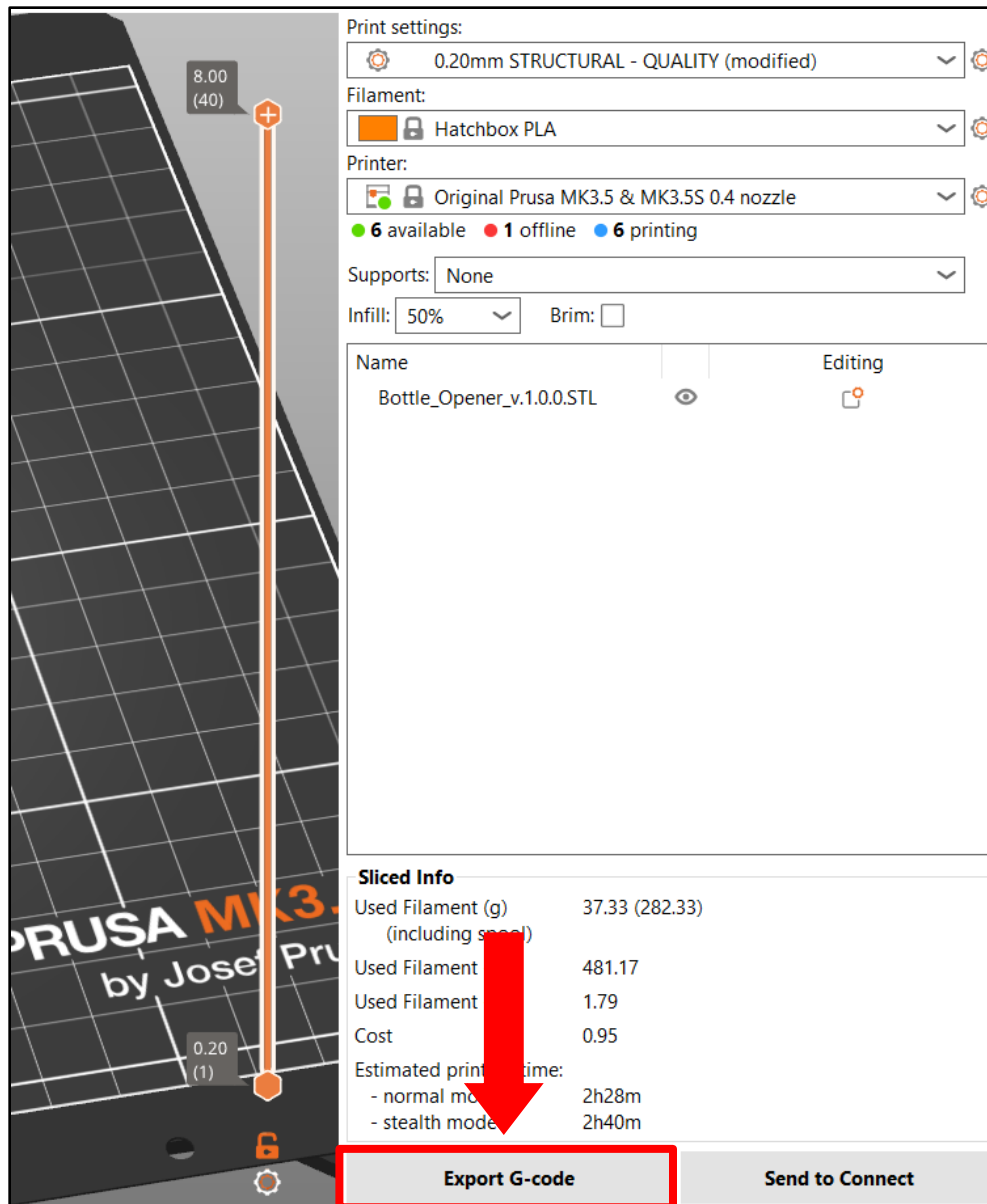

Figure 5. Export G-code Button.
9.) Once the slicing is finished, click “Export G-code” (see Figure 5) and save the G-code to a flash drive.